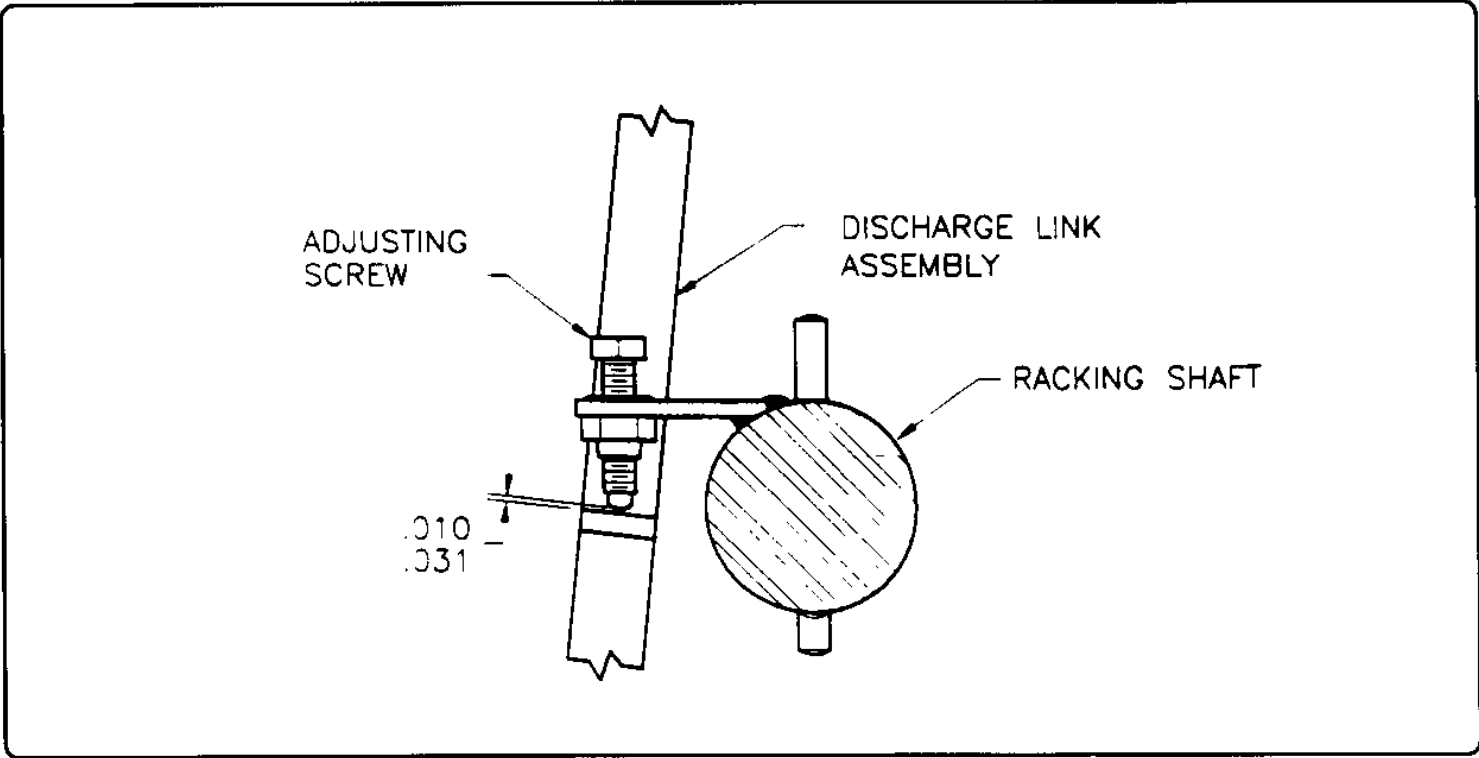

Fig. 7 - Racking Mechanism (Final Adjustment)
Racking Mechanism (See Fig. 7)
- Pull down the Discharge Link, and turn the adjusting screw on the Racking Shaft to obtain a .010-.031 gap between the screw and the tab on the Discharge Link Assembly, as shown in Fig.7.